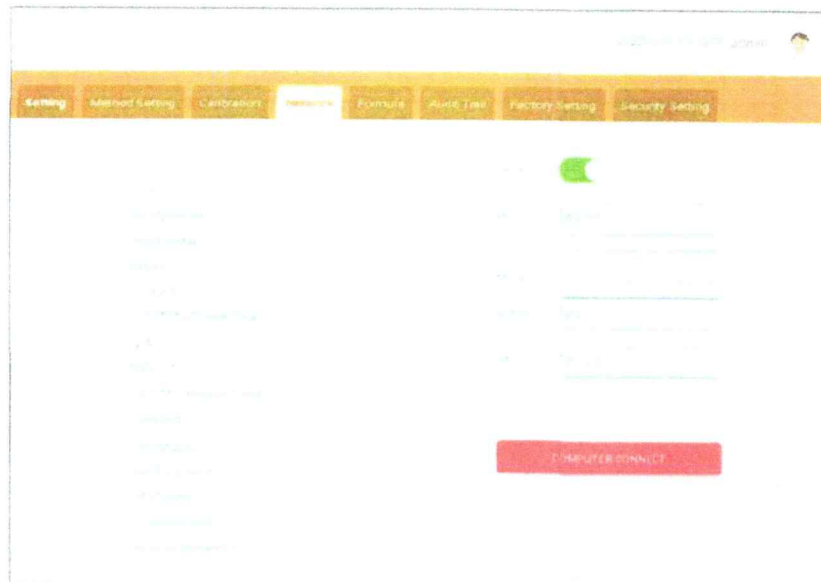

Fig. 41
- Click the menu bar in the upper left corner of the instrument interface, select "Settings" in the popup frame, and then select "Network Settings" to pop up the interface as shown in Fig 41